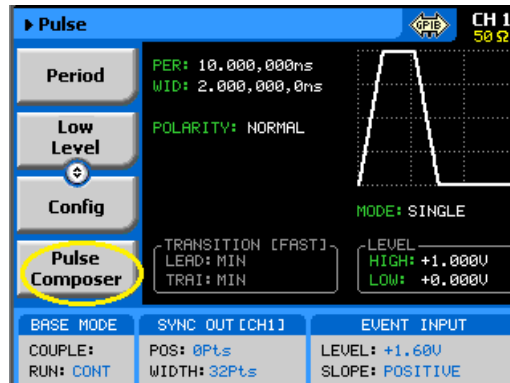

Figure 3-70, Access the Pulse Composer Menus
2. Using the down key, scroll down with the menus to access the Pulse Composer menu tab, as shown in Figure 3-70.